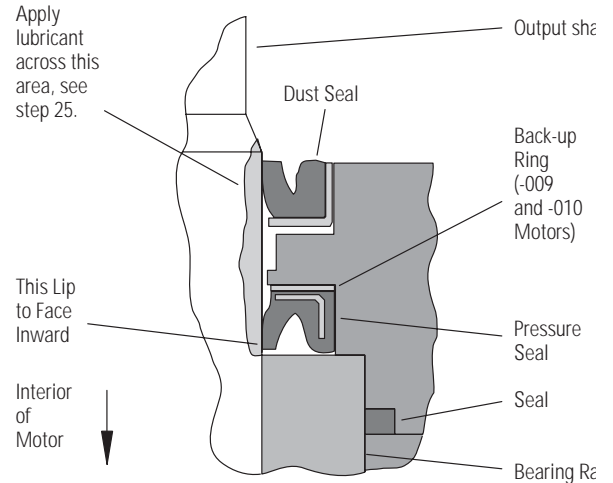

Figure 15
22. Install exclusion seal in flange, see Fig. 15. Press the dust seal into place carefully. To eliminate damage to rubber portion or distortion of metal container use a tool (flat-round face 35-41mm[1.37 to 1.62 inch] diameter) which provides proper guiding and positioning.
25. Before installing the flange and seal assembly over the shaft, place a protective sleeve or bullet over the shaft. Lubricate space between dust seal and pressure seal, as well as lips of both seals (see Fig. 15). Install flange. Rotate flange slowly while pushing down over shaft. Be careful not to invert or damage the seals.